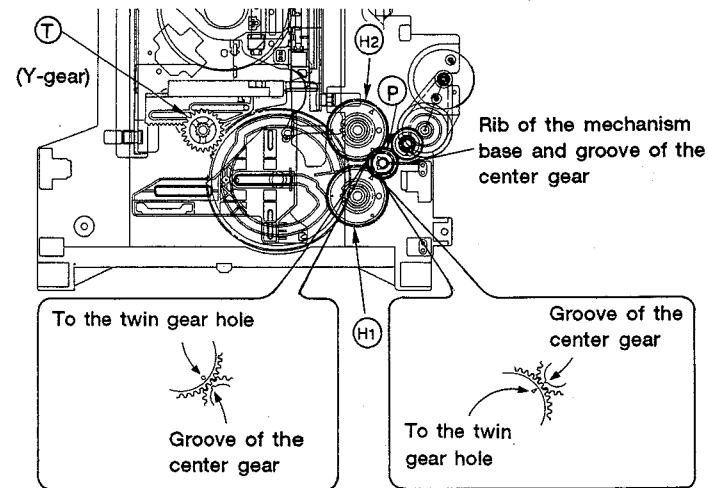

Fig. 1-11
- Attach the center gear ③, twin gears ④① and ④②, and Y-gear ⑤ in the positions indicated in Fig. 1-11.